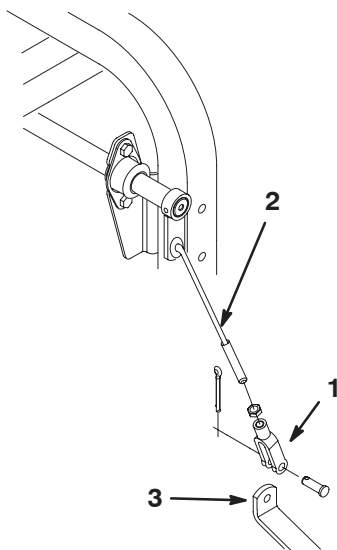

Figure 30
2. Loosen the jam nut on the actuator rod (Fig. 30). Remove the cotter pin retaining the actuator rod. Increase or decrease the actuator rod length by rotating the rod. Install the actuator rod using a new cotter pin and secure the jam nut.